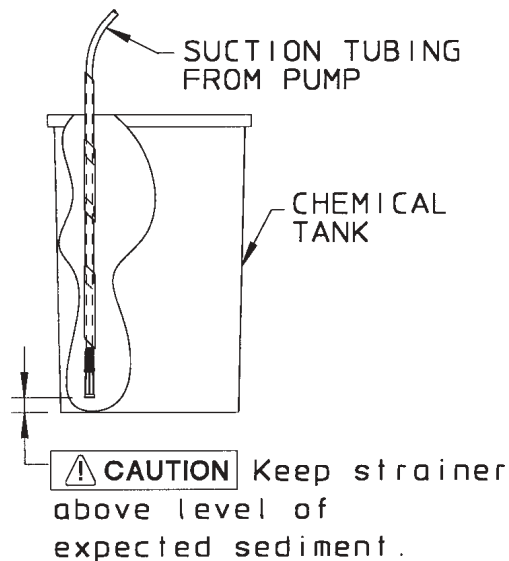

Figure 2.4
- When the pump is shelf-mounted or top-mounted on the tank, suction tubing should be kept as short as possible. Pumps mounted on or above a tank should use the tube wand to ensure that the foot valve/strainer remains in a vertical position. The vertical position is critical to proper foot valve performance. To assemble, alternating large and small diameter sections are inserted one to two inches and twisted to lock in place. The tubes are telescoped to varying lengths to match the tank (maximum length is 36 inches). Feed the suction tubing through the tube wand until it extends beyond the end of the tube wand. Do not kink suction tubing. Attach foot valve/strainer to suction tubing. Install suction tubing with tube wand and foot valve/strainer into tank. Adjust length of suction tubing to hold foot valve/strainer approximately two inches from the bottom of the tank (see Figure 2.4). Connect suction tubing to the suction side of the pump.